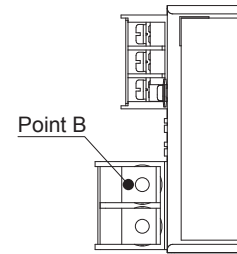

Fig.6.3 Temperature measurement point
- When wiring the load wire, select the wire in consideration of the heat generation so that the temperature of points B in Fig. 6.3 is lower than the temperature specified in Table 6.2 - Table 6.4.